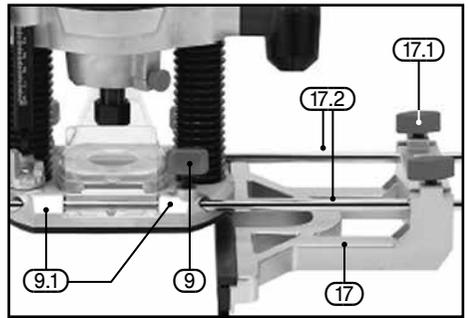

FIG.1
8.1 PARALLEL GUIDE FENCE – FIG. 1
- Loosen the 2 parallel guide locking screws (9) located on the base of the machine.
- Adjust the cutting distance according to the job in hand and then tighten the parallel guide locking screws (9) to secure.